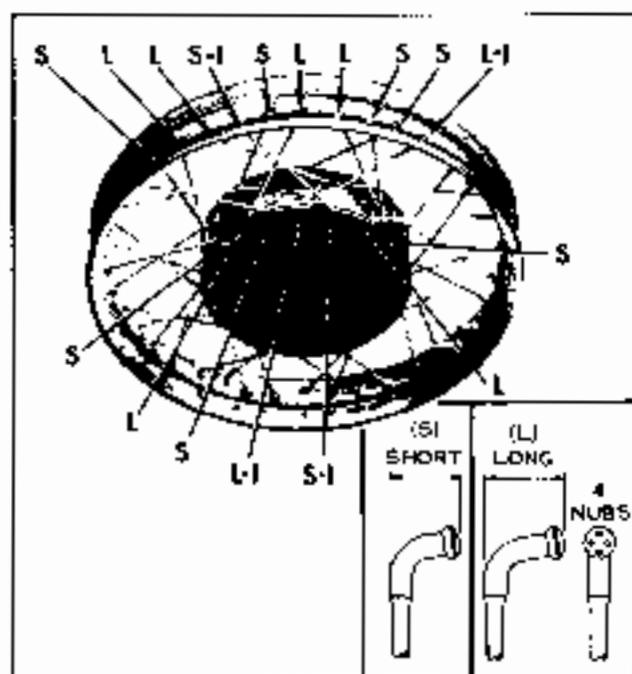

Figure 2-8A. Lacing Front Wheel - Super Glide
FRONT WHEEL (Figure 2-8A)
Note that there are two types of spokes, long and short as bent end is shown in Figure 2-8A. One long and one short spoke are used in each pair. The long spoke (L) of each pair on rim crosses over to opposite side of hub while the short spoke (S) of each pair on rim connects to same side of hub. Spoke arrangement is shown in Figure.